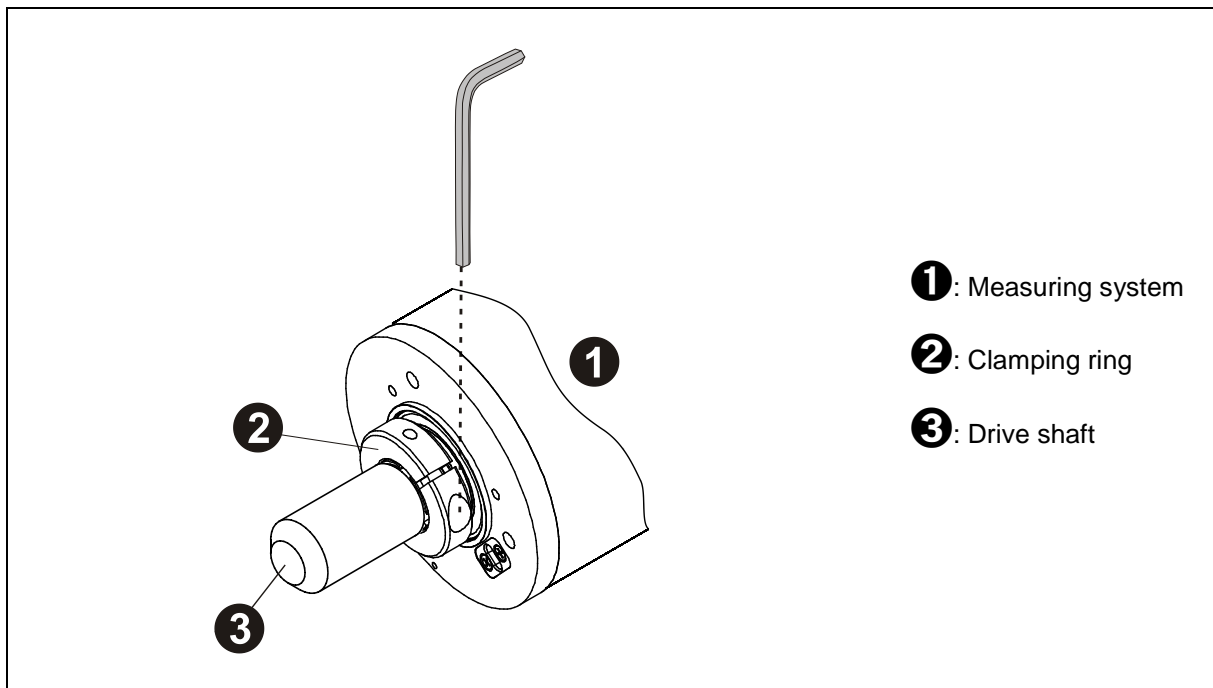

Figure 10: Friction locking
- Axial slipping of the measuring system on the drive shaft must be prevented by fixing the clamping ring in position, see Figure 10.